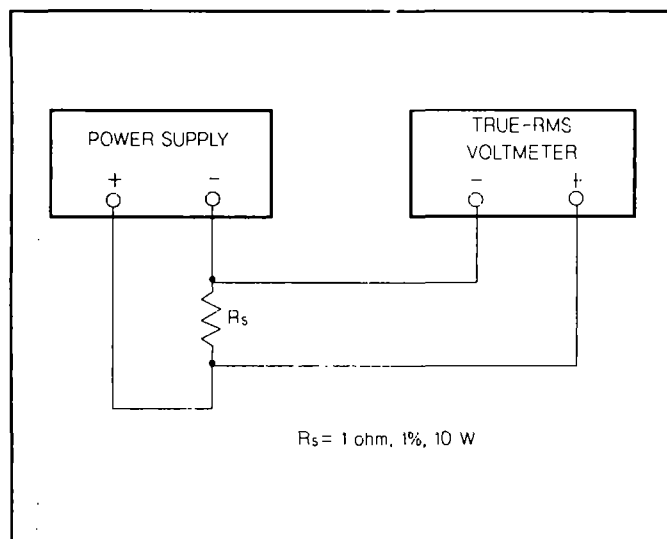

Figure A-6. RMS Measurement Test setup
- Connect the test equipment as shown in Figure A-6.
- Connect the test equipment as shown in Figure A-6, but replace the RMS voltmeter with oscilloscope.